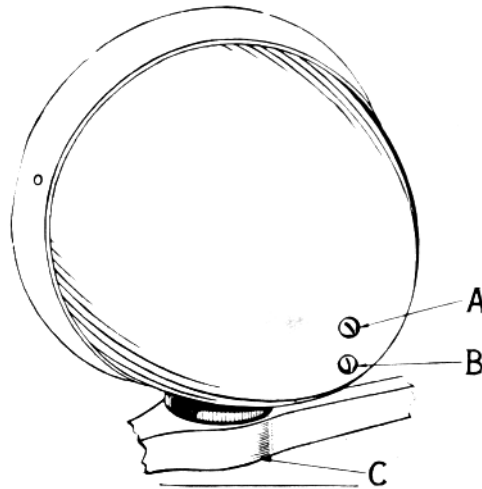

Fig. 1
The headlamp consists of a carefully made outer housing and door, a special variable axis parabolic reflector to tilt and spread the light, and a ribbed or fluted lens designed solely for use with this reflector. In addition to the upper screw "A" (Fig. 1) at the rear for focusing the bulb, an adjustment is provided for raising or lowering the bulb in the reflector to secure best results from different bulbs. This is done by the lower screw "B" (Fig. 1) at back of lamp, which turns a small eccentric, tilting the socket and bulb up or down in the slotted guide tube attached to the reflector.
*Third*—With one lamp covered to hide its light, set the lighting control switch at the upper or “driving” beam position and remove the door from the uncovered lamp. Turn the lower of the two screws “B” (Fig. 1) in the back of headlamp (vertical adjustment screw) to the right until the top of the light beam is as low as possible, then turn it to the left one-quarter turn or slightly more. The total adjustment is covered by a half turn of the screw. Turning screw to right raises the bulb in reflector and tends to lower the top of the “driving” beam, producing a flatter cut-off and less tilt to the lower beam. Therefore, set the bulb so that the beam shown in Fig. 5 is obtained by proceeding as follows:
*Fourth*—Turn the large focus screw “A” (Fig. 1) in center of lamp slowly to left or right until a bright triangular spot like Fig. 5 is obtained. Try removing the bulb, turning it half way around to reverse the position of filaments, and replacing in the socket. This insures the best beam from the bare reflector, since the bulb filaments sometimes vary in length and position.
*Fifth*—Aim or point the lamp by loosening the nut at “C” (Fig. 1) on lower side of lamp mounting. The center of the beam should strike the vertical line on wall in front of this lamp, and the top of beam should touch line “A” when car is fully loaded. If car is empty, allow at least 4 inches between line “A” and top of light beam. Under no circumstances should any part of the bright beam rise above line “A.”
*Sixth*—Make sure that the lamp is firmly fastened in position when it is aimed correctly. Then repeat the foregoing operations with the other lamp. The two upper beams should be similar in shape and should strike the wall at the same height from the ground. Now turn the control switch to the lower or “passing” beam position and note whether the cut-off or top of the bright area on wall has dropped about 1 foot. If the amount of drop is considerably less than 1 foot, turn lower screw “B” (Fig. 1)